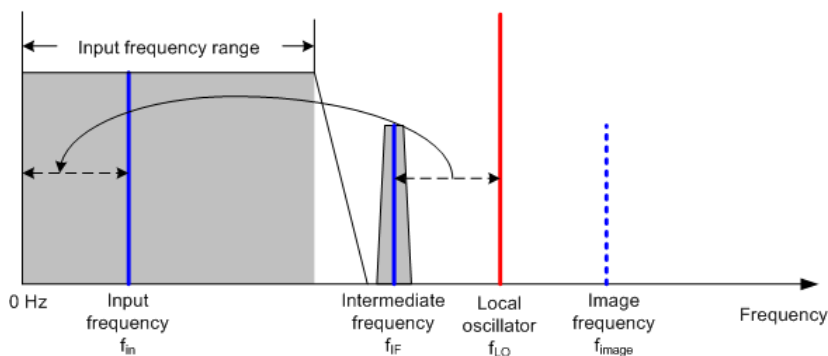

Figure 11-3: Mixing process
The mixer converts the RF signal to a fixed intermediate frequency (IF). This process usually involves several stages. It lasts until you get an IF for which good narrowband filters are available. The R&S FSH needs three mixing stages to get an IF that the filter can handle. Figure 11-3 graphically shows the mixing process.